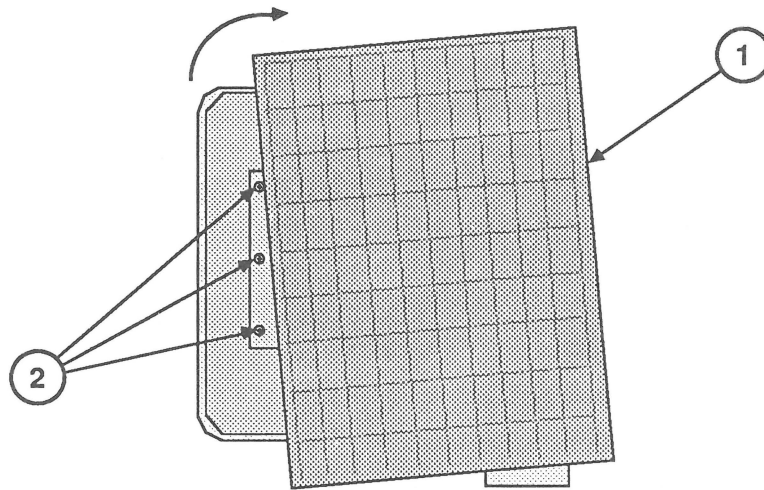

FIGURE 1
3. While lifting the monitor up slightly with one hand, rotate the base of the stand (Figure 1, #1) upward until the three screws (Figure 1, #2) that secure the stand to the chassis can be reached.
4. Remove the three screws (Figure 1, #2).
4. Replace the three screws (Figure 1, #2) that secure the stand to the chassis frame.